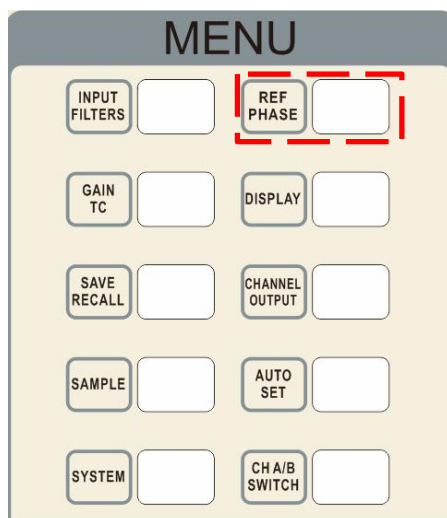

Fig.92 [REF PHASE] Submenu
4. Press [REF PHASE] in front panel and set <Harmonic> to the required order, as is shown in Fig.92.